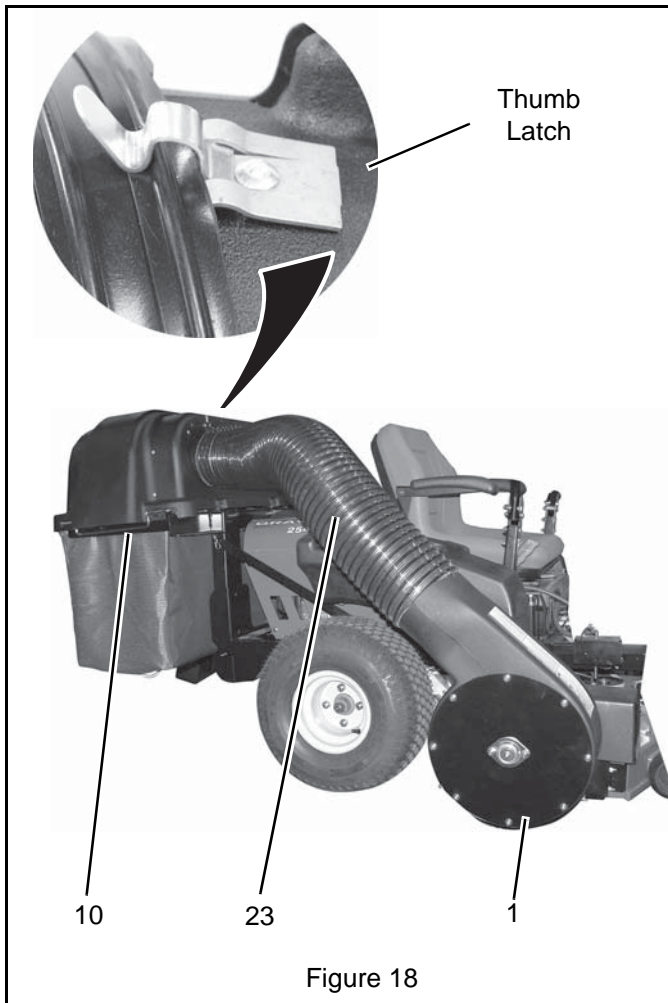

Figure 18
### Install Hose (Figure 18)
1. Flip up thumb latch and remove bagger hose from cover assembly and blower and idler assembly (see figure 18 on page 17).